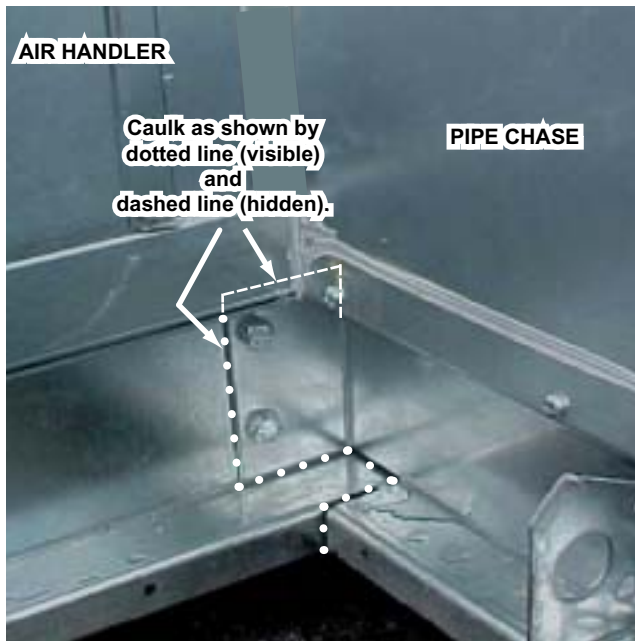

FIG. 5 – BASERAIL CAULK APPLICATION
- Apply caulking to all exterior joints between pipe chase and air handler baserails (when purchased) (*see Fig. 5*).